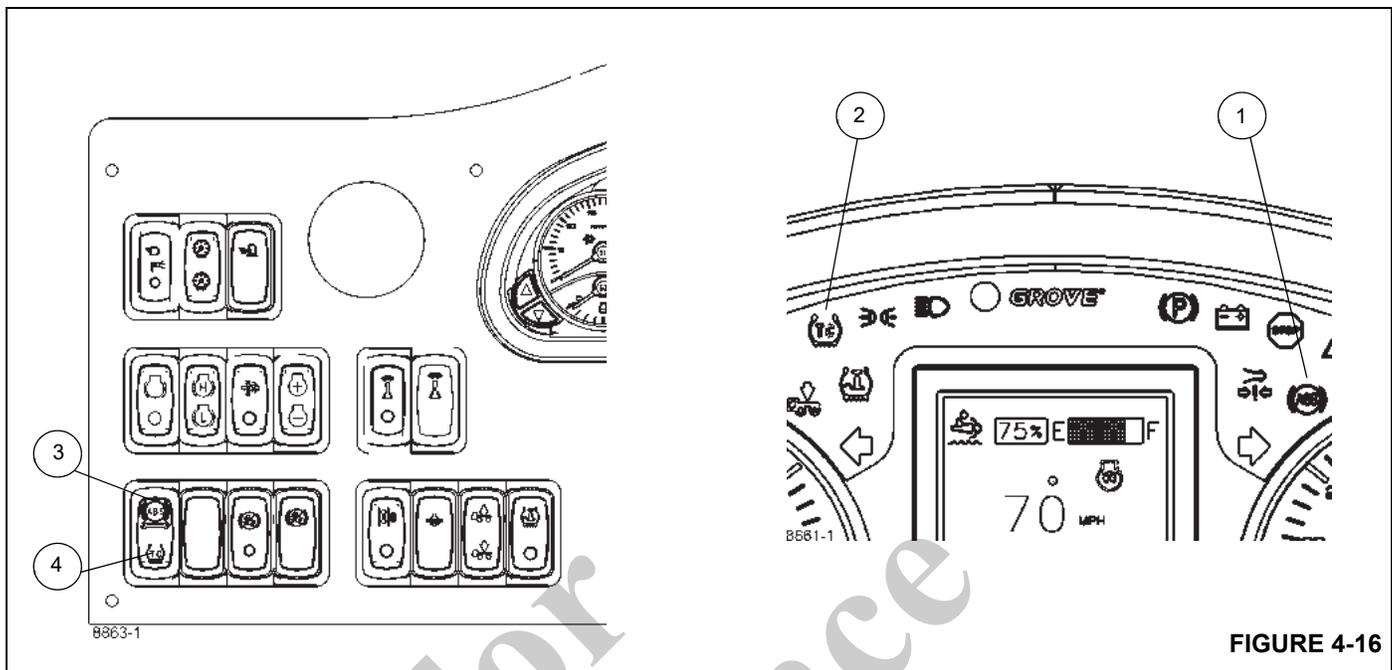

FIGURE 4-16
When ignition power is applied, the ECU will illuminate the ABS indicator lamp (1) (Figure 4-16) for approximately three seconds, after which the lamp will extinguish if no diagnostic trouble codes are detected.
The ABS/Traction Control switch (3), (Figure 4-16) is used to diagnose system problems along with blink codes displayed on the ABS indicator, see the *Service Manual* for more information.
- The ATC off-road switch (4), (Figure 4-16) allows greater wheel spin (more torque) when activated. It is intended for adverse conditions, usually off-highway. The switch turns on ATC off-road when pushed once and off when pushed a second time and whenever the system goes through a power-up cycle.
The ATC Indicator (2), (Figure 4-16) will flash rapidly when ATC is operating.
The ECU will illuminate the Automatic Traction Control (ATC) lamp (2), (Figure 4-16), for approximately 2.5 seconds when ignition power is applied, after which the lamp will extinguish, if no diagnostic trouble codes are detected.
To activate ATC off-road mode, push the bottom of the ABS/Traction Control switch, (4) (Figure 4-16), once. When the ECU is placed in the ATC off-road mode, the ATC